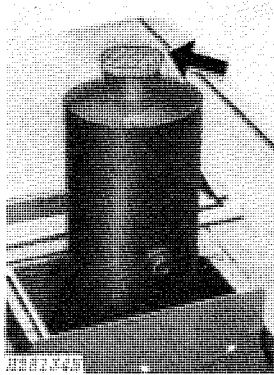

Fig. 4-Exhaust Opening
2. Remove tape from exhaust opening and from air intake (Figs. 4 and 5). Check to be certain air cleaner filter element is installed and all connections, particularly between the air filter and the engine, are tight.